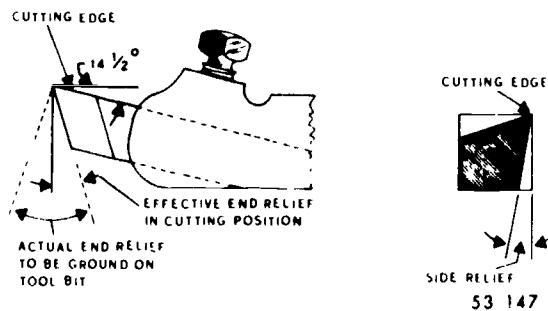

Figure 5-4. Relief angles
**Relief angles.** Relief angles are the angles formed by the intersection of the surfaces below and adjacent to the cutting edge with a plane perpendicular to the base of the tool. There are two types of relief angles, side and end, as shown in figure 5-4. Relief angles provide clearance to prevent the tool from rubbing on the work. They are often referred to as clearance angles. The tool is held in the toolholder at an angle of approximately  $14\frac{1}{2}^\circ$ . You must take this into consideration when you grind the end relief. For example, if the effective end relief is to be  $8^\circ$ , the active end relief angle must be  $22\frac{1}{2}^\circ$ . The toolholder has no effect on the side relief. Figure 5-5 gives the recommended relief angles for various metals.